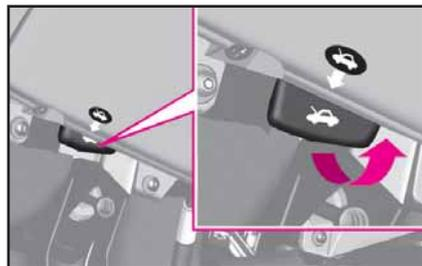

fig. 74
- 1) Pull the lever shown in **fig. 74** in the direction of the arrow.